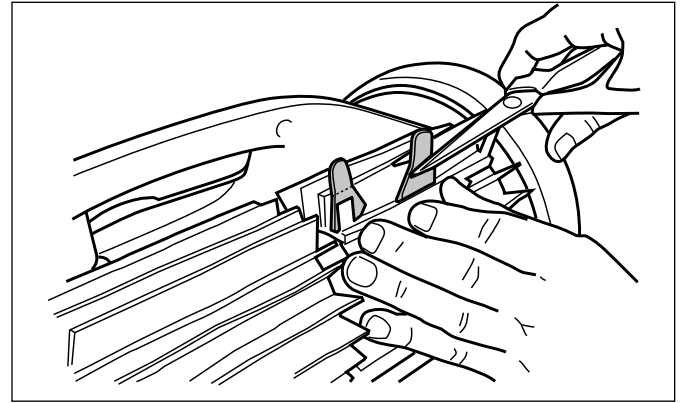

Figure 34. Cut Tabs
5. Use a pair of scissors to cut the tabs 3/4 inch from the heel so that they are no higher than the spikes (Figure 34).